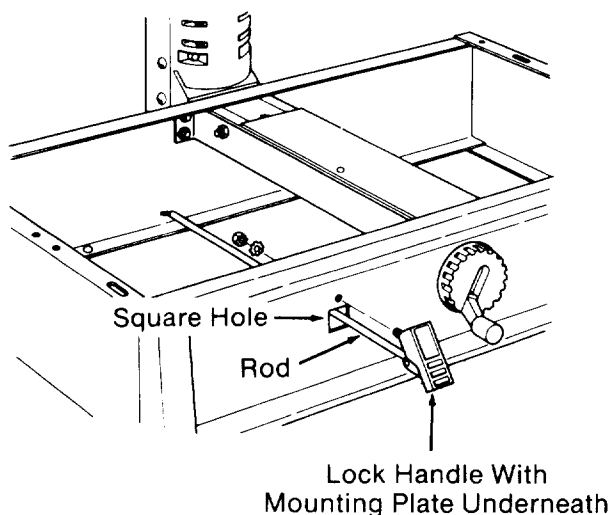

Fig. 33
2. Lift a *lock handle* and put the bolt through the hole in the *mounting plate* as shown. (Figure 33)
3. Slide the *rod* through one of the square holes in the front of the *saw*. Then put the hex head bolt through the round hole above it. (Figure 33)